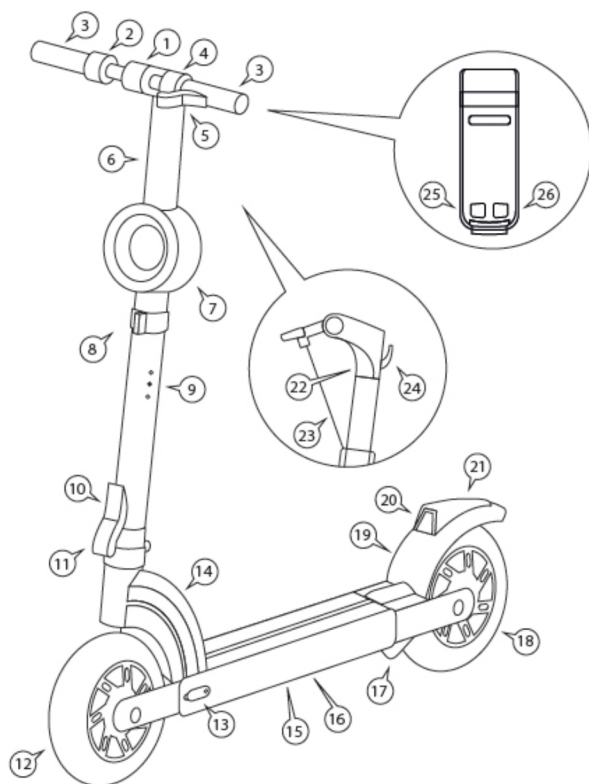
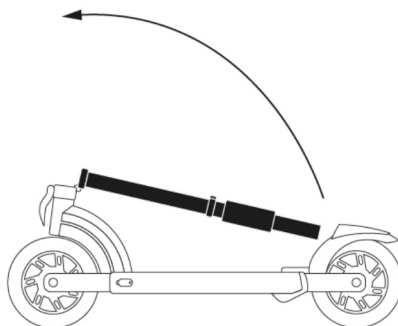
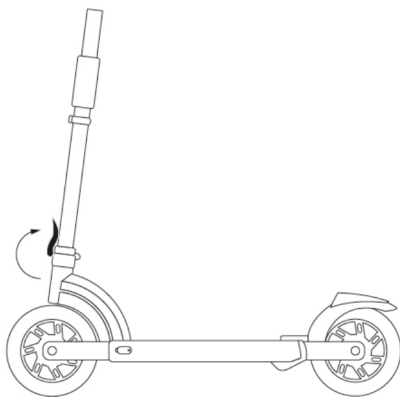
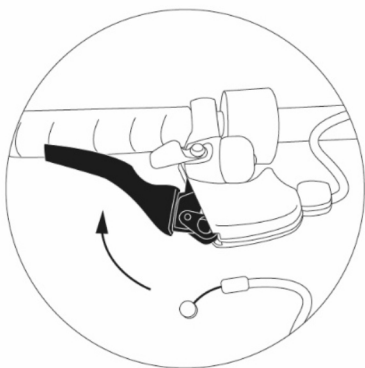

Figure 2 - Scooter components
Figure 9 - Steering column positioning
Figure 10 - Unlock lever closing
Figure 14 - Disc 1 brake wire installation
1. Make sure the lock/unlock lever (**See point 11 Table 1 - Detailed view of scooter components and Figure 2 - Scooter components**) is fully open (facing down) and raise the steering column to the end of its travel (**See Figure 9 - Steering column positioning**).
2. Raise the lock/unlock lever as far as it will go (**See Figure 10 - Unlock lever closing**) and make sure the safety system is engaged (**See point 10 Table 1 - Detailed view of scooter components and Figure 2 - Scooter components**).
2. Press the mechanical brake lever (**See point 5 Table 1 - Detailed view of scooter components and Figure 2 - Scooter components**) until fully home. Release the mechanical stop on the brake cable (**See Figure 14 - Disc 1 brake wire installation**);
3. Insert the cylindrical head of the brake wire into the mechanical stop, routing it from the bottom (**See Figure 14 - Disc 1 brake wire installation**);